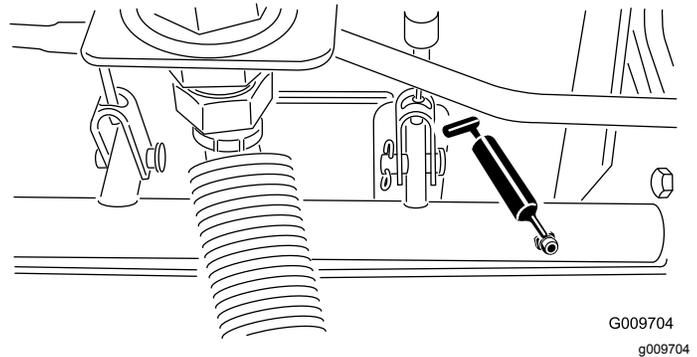

Figure 46
- Brake-shaft pivot bearings (5) (Figure 46)